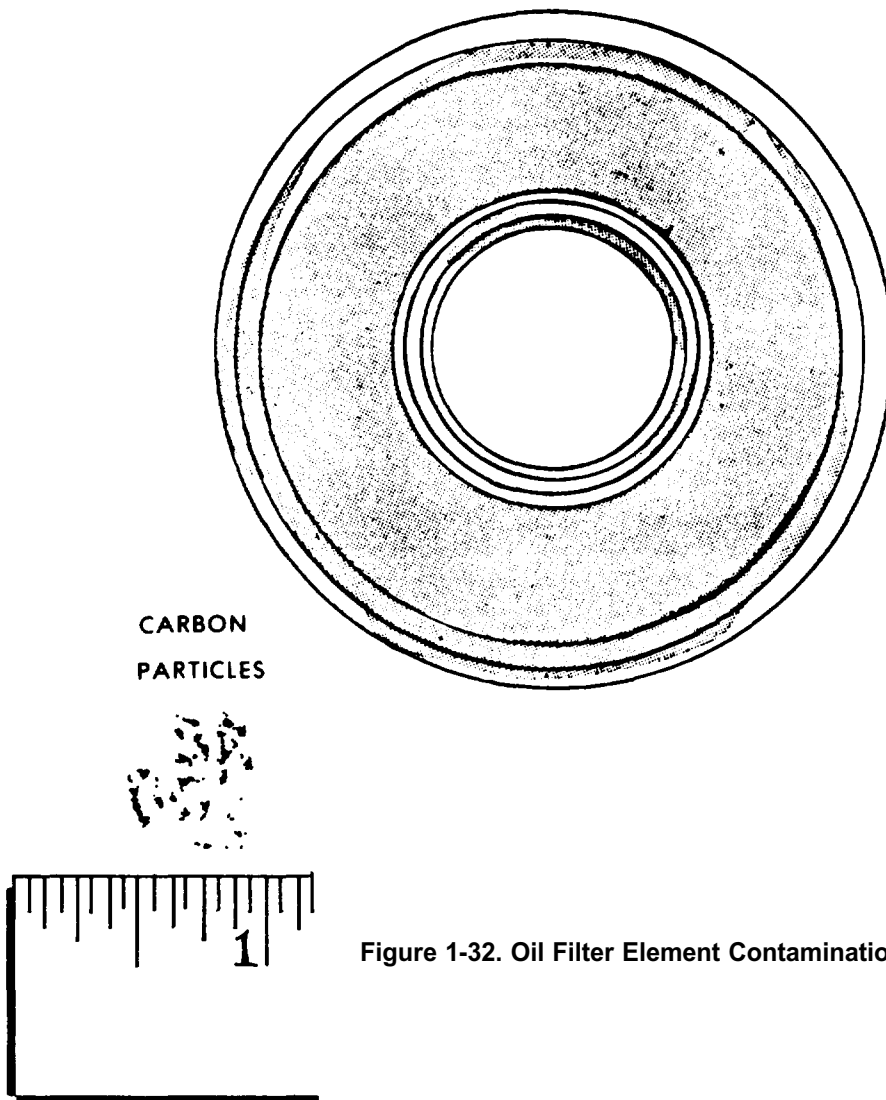

Figure 1-32. Oil Filter Element Contamination
k. If amount of carbon particles found on engine oil filter element is in excess of that shown in figure 1-32, proceed as follows:
(1) Clean and reinstall oil filter assembly. Tighten filter housing attaching bolt. (Refer to Appendix G, table G-3 or G-4. reference number 52).
(2) Drain all oil from accessory drive gearbox, oil tank, and oil cooler.
(3) Remove and inspect No. 2 bearing strainer and No. 3 and 4 bearing strainer (strainer bore on T53-L-13B/703 engines). If carbon particles are present, oil filter has been bypassed. Remove, clean, and reinstall reduction gear oil transfer tube strainers and overspeed governor and tachometer drive oil throttle strainer. (Refer to paragraphs 9-4 and 2-46.) Clean and reinstall No. 2 bearing strainer and No. 3 and 4 bearing strainers.
(4) Perform preceding step e.
(5) Replenish oil system.
(6) Start engine and run at 70 to 80 percent N1 rpm for 15 minutes.
(7) Shut down engine/remove. inspect. and clean oil filter and strainers. Reinstall filter and strainers.
(8) If contamination is excessive, repeat procedure until filter is clean after run.